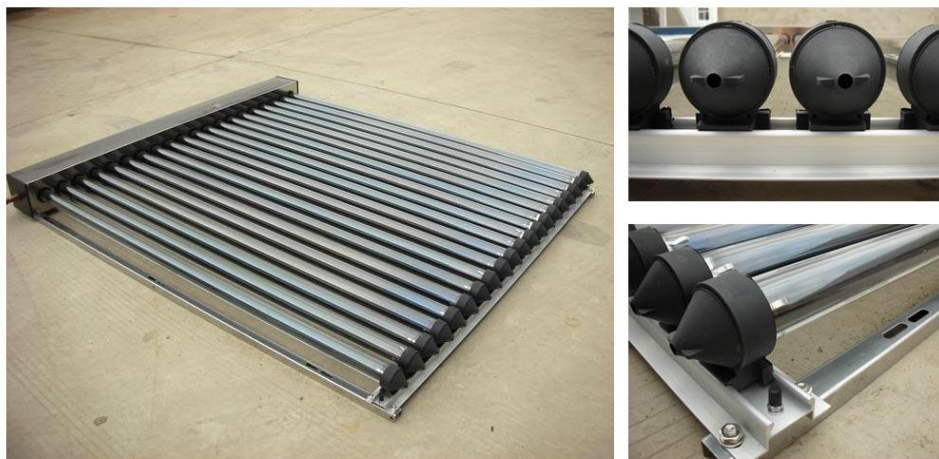

Fig 3.17
e) See figure 3.17 for detail of the completed collector.